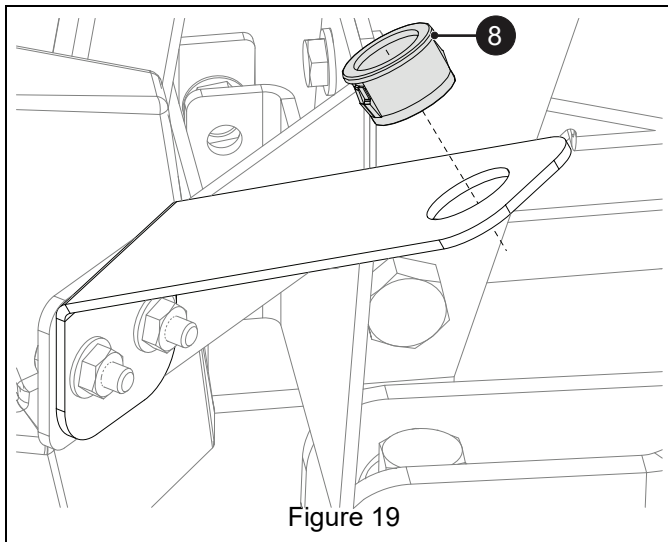

Figure 19
2. Install panel bushing (Item 8) into rod retainer plate. See Figure 19.